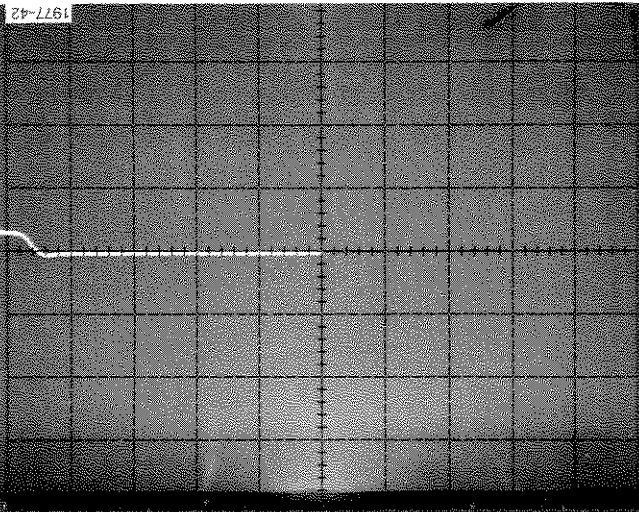

Fig. E-6. Input common-mode voltage range.
- c. Check that the Input Common-mode Voltage Range crosses a value 1.5 volts less than  $V+$  ( $V+ = 3.5$  volts for this test). The specified limit is 3.5 V  $-1.5$  V, or 2 V. The display must be flat at the 2 V point (four divisions right of the display zero reference point, see Fig. E-6).